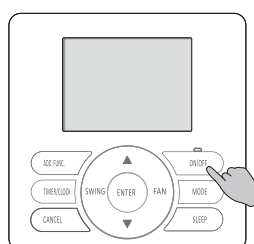

fig.3
3. Press ON/OFF button to quit customer-reading state. (see fig.3)